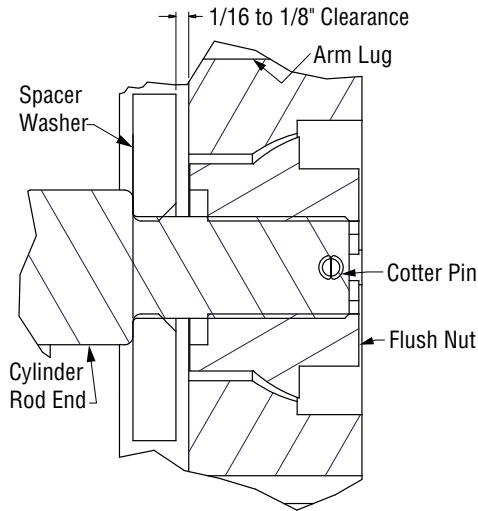

Figure 5-4, Arm Lug
3. Apply a thin coat of bearing grease to the spherical portion of the nut and concave section of the arm lug. Screw on the flush nut until it stops. Back off the flush nut while lining up the cotter pin hole in the rod with the slot in the flush nut. Clearance between the spacer washer and the arm lug should be $1/16$ to $1/8$ of an inch or less. Be sure there is some clearance between spacer washer and arm lug. (Figure 5-4)